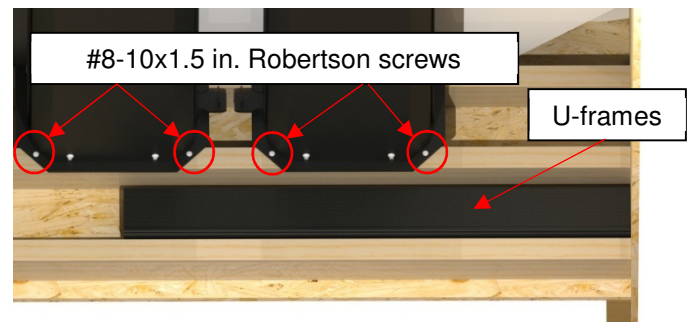

Figure 36
9) Remove both U-frames at the bottom of the crate and place them in a safe place. (Figure 36)
10) Unscrew the bottom #8-10 x 1.5 in. Robertson screws holding the posts to the crate. There are two bottom screws per posts as shown in Figure 36.